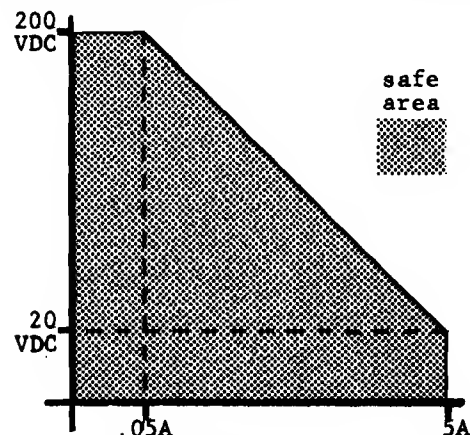

FIGURE 1-- REED RELAY CONTACT RATINGS
- 6 Figure 1 shows tradeoffs for power handling capacity and contact voltage for the reed relays. The contacts are rated for several million cycles; however, the greater the load on the contacts the shorter their life.